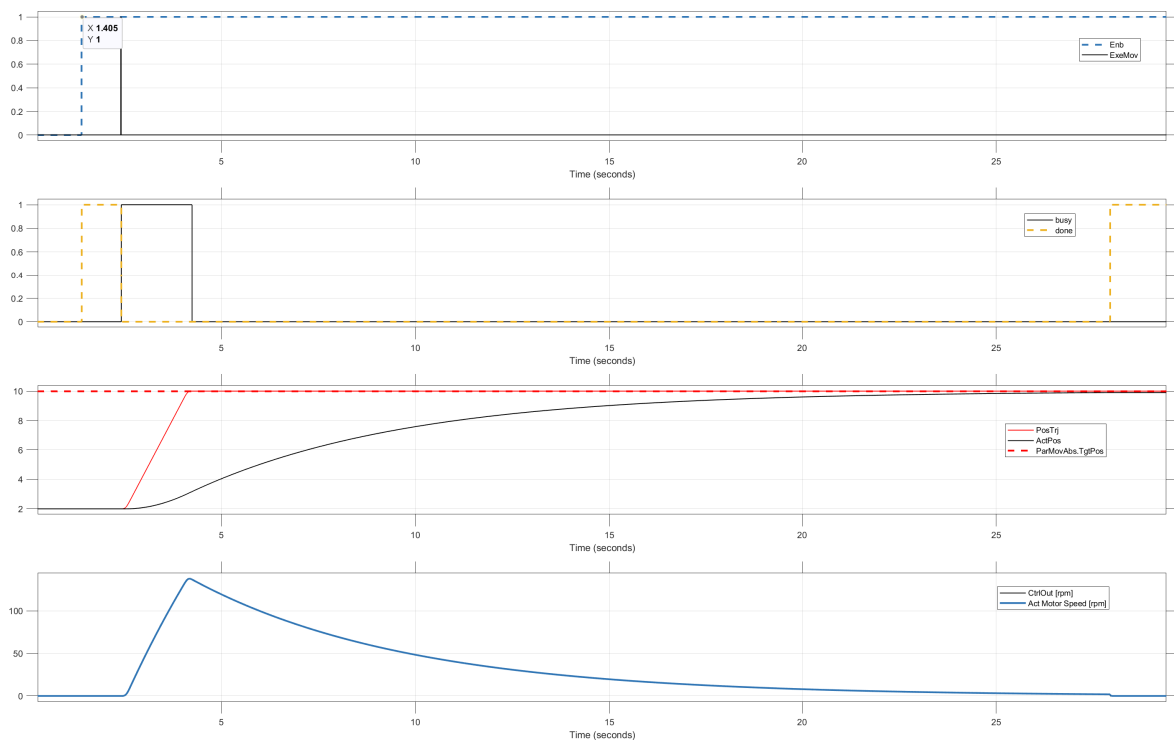

Figure 19: K_p increased to 20, still small!! ($K_p = 20$, $K_i = 0.0$, GainFwdSpdCtrl = 0.0, GainBwdSpdCtrl = 0.0, Window = 0.2mm, TuneTime = 0.3s)
- Objective: Continue this process until the position trajectory (*PosTrj*) and the actual position are parallel, indicating proper tuning. see figures 19, 20 and 21.